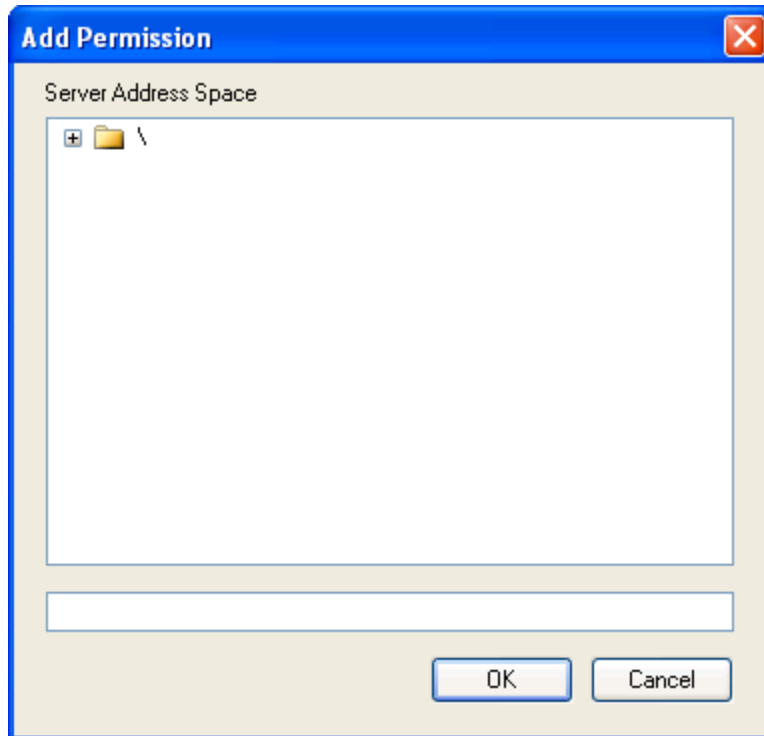

Figure 56 - Add User Permission Window
2. The **Add User Permission** window (Figure 56) appears. This window allows you to browse the OPC server address space to find either a path in the hierarchy, or a particular OPC item.